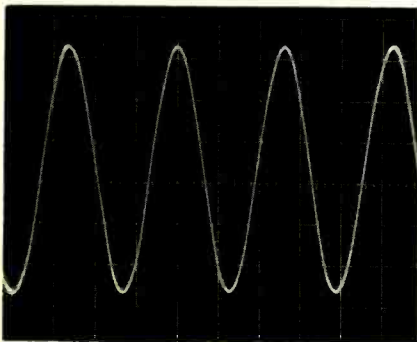

FIG. 5—THE FIRST STEP is to apply the 19-kHz pilot signal, without the M or Sm signals.
1. The 19-kHz pilot signal is applied without an M and Sm signal (Fig. 5). The input voltage is adjusted to 200 mV peak-to-peak on the scope, using the attenuator in